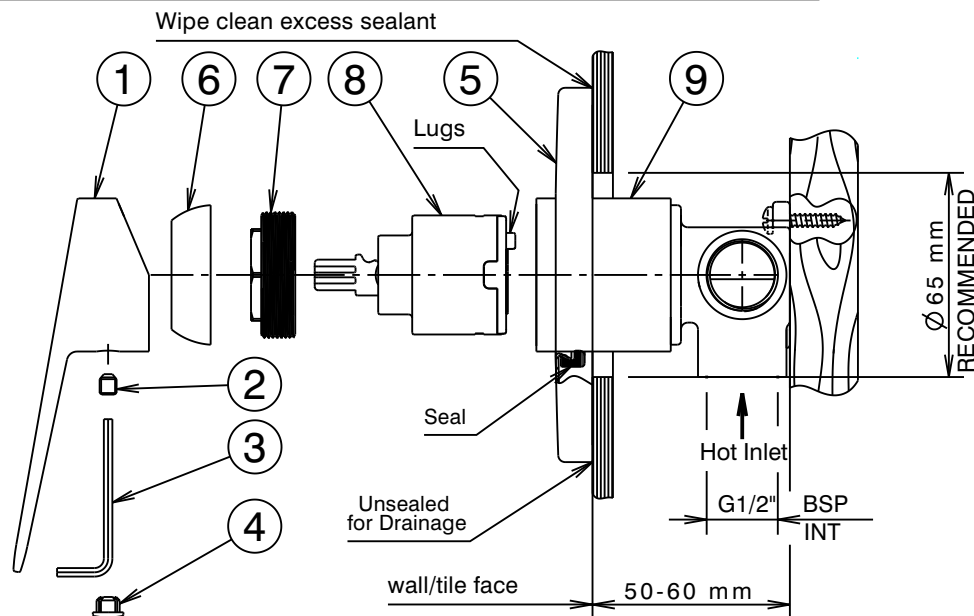
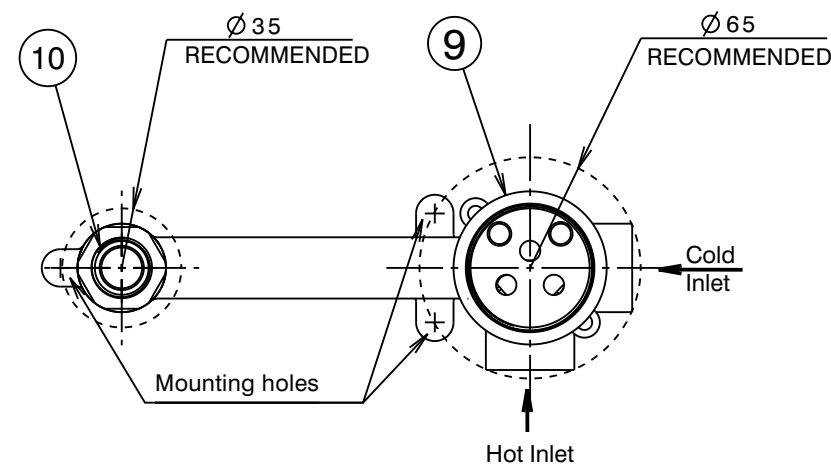
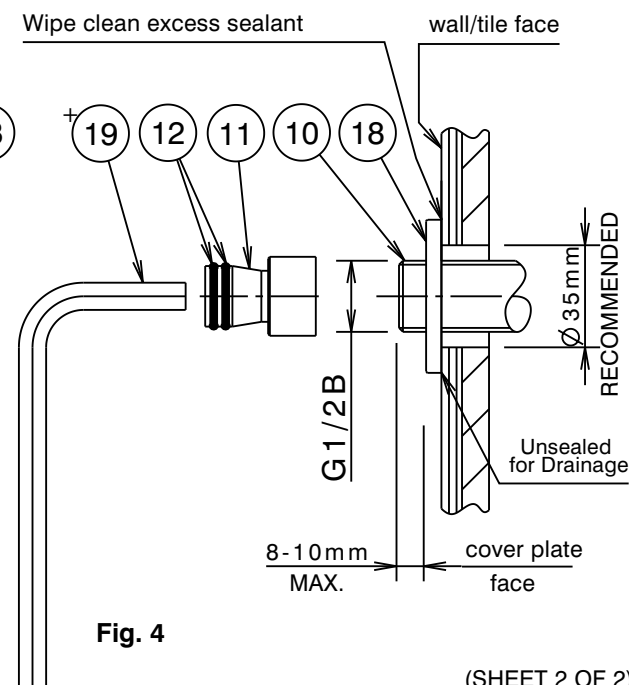

Fig. 1
Fig. 2
Fig. 4
Installation (Fig. 1, Fig. 2&Fig. 4)
- 1) Fit mixer body assembly (9+10) onto a suitable mounting plate or noggin in the wall and secure using screws through the holes in its base. When facing the mixer, the connections should be as follows (**Fig.2**):
- 2) Apply a suitable clear sealant to the back edge of the cover plate (5), leaving an unsealed section at the bottom for drainage (**See Fig. 1**). Carefully slide the cover plate (5) together with seal onto the mixer body (10), push firmly against the cover plate (5) until it contacts the wall/tile face & the sealant has formed a waterproof joint. Wipe clean any excess sealant from surfaces & the wall/tile face (**See Fig. 1**).
- 3) Apply thread tape to the thread of mixer body (10).
- 4) Apply a suitable clear sealant to the back edge of the cover plate (18), leaving an unsealed section at the bottom for drainage (**See Fig. 4**). Carefully slide the cover plate (18) onto the mixer body (10), push firmly against the cover plate (18) until it contacts the wall/tile face & the sealant has formed a waterproof joint. Wipe clean any excess sealant from the surfaces & the wall/tile face (**See Fig. 4**).
- 5) Screw the spigot (11) onto the thread of elbow (10) using a 8mm allen key (19+) until the cover plate (18) is held securely against the wall/tile face. DO NOT OVERTIGHTEN.
Apply suitable lubricant to 'O'Rings (12). Fit wall outlet (13) onto the spigot (11), then carefully push it firmly against the cover plate (18) while tightening grub screws (17) using the 2.5mm allen key (3) provided. Take care that the aerator insert (15) is pointing downwards as shown (**See Fig. 4**) before tightening screws (17).
- 6) Fit handle (1) taking care that it is pushed fully onto cartridge stem, tighten screw (2) using the 2.5mm allen key (3) then fit plug (4).
Replacing Cartridge (Fig. 1)